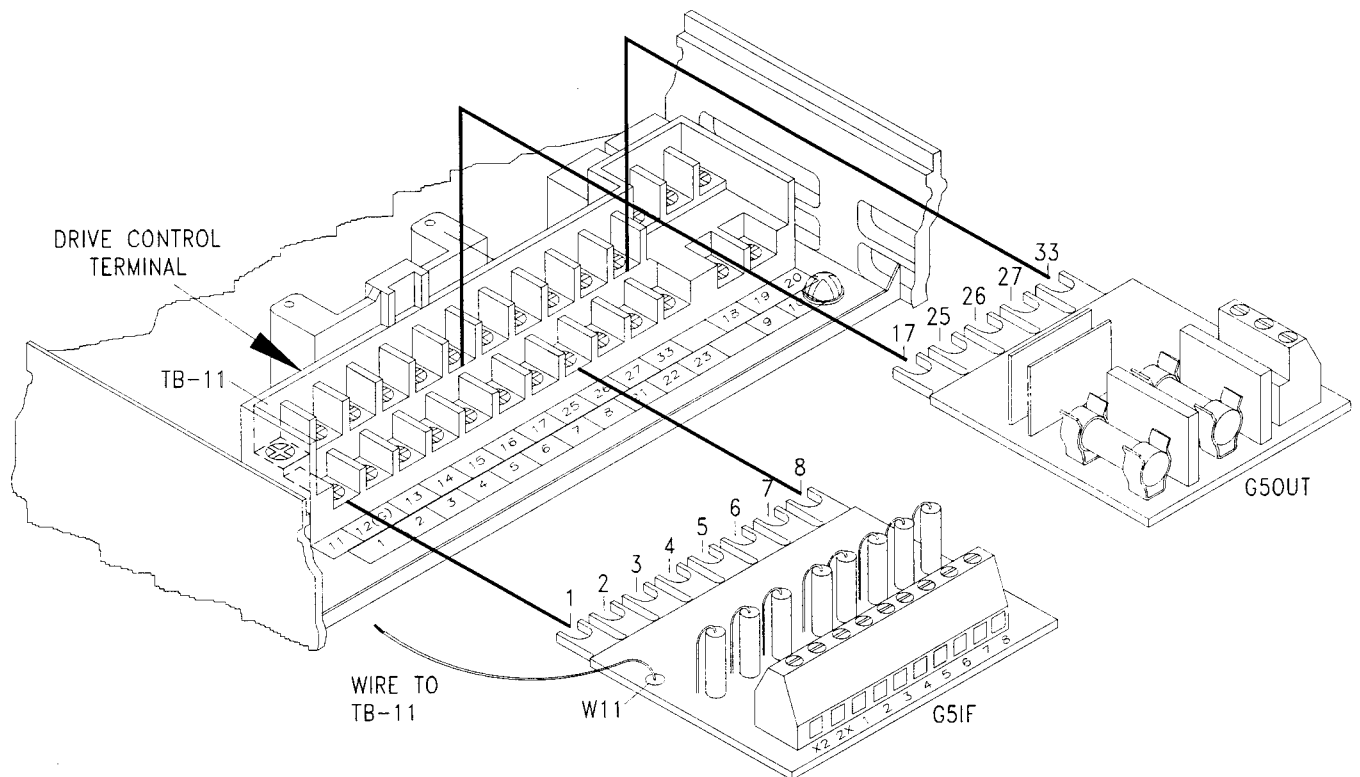

Figure 1.22: Interface Cards
Before you wire the control circuit, review the following table and Figure 1.22: Interface Cards. The table may be helpful if you have wiring requirements that cannot be fulfilled by the G5IF 120V Control Interface Card.
While the G5IF 120V Control Voltage Interface and G5OUT Control Output Cards are already attached to the drive control terminals when the drive is shipped, the Figure 1.22: Interface Cards is provided in case you have to reattach these boards.
3. Install G5OUT card to the drive as indicated in Figure 1.22: Interface Cards.
5. Connect the G5IF common lead (blue wire W11) to Terminal 11 on the drive control terminal. Refer to Figure 1.22: Interface Cards.
- Reattach the G5IF card to the lower-level control board Terminals 1 through 8. (Refer to Figure 1.22: Interface Cards.)
- Reattach the G5OUT card to top-level control board Terminals 17, 25, 26, 27, and 33. (Refer to Figure 1.22: Interface Cards.)